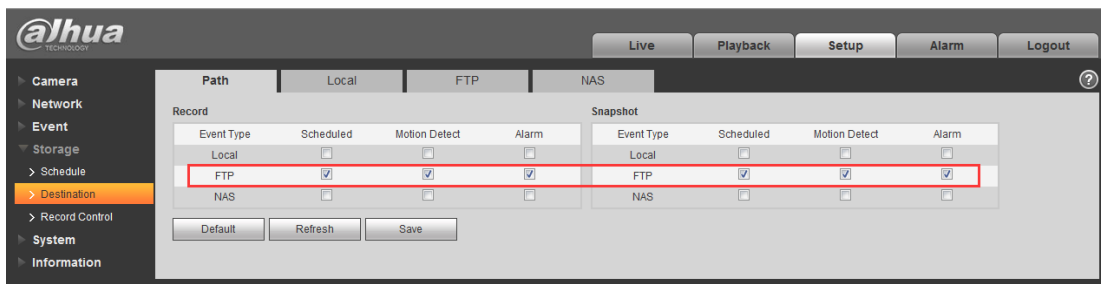

Figure 10-1
- 1) Enter 'Setup-Storage-Destination-Path' as Figure 10-1, enable FTP checkbox in Record/Snapshot